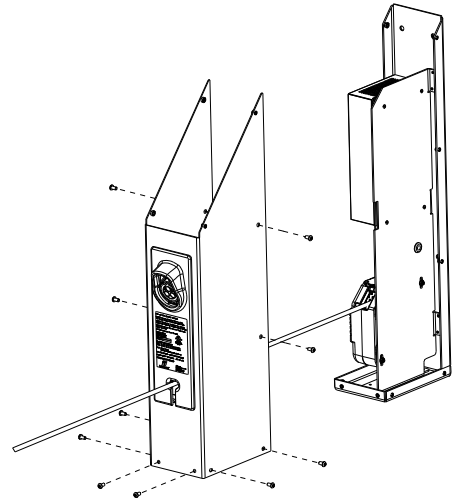

Figure 5 – Front Housing Removed
5. Remove 6 screws in the lower front and sides of the unit that attach the front housing to the charging base. Remove 4 screws on the side of the unit that attach the front housing to the charging base. Retain screws for later installation. Gently lift the front housing ~ 2" inch and slide forward and out of the way. (See Figure 5)
6. Mark hole locations (see Page 3) on concrete wall that the L1 PowerPost® EVSE will be mounted to. Drill (4) 2-7/8" deep holes in locations provided using 3/8" masonry drill bit.